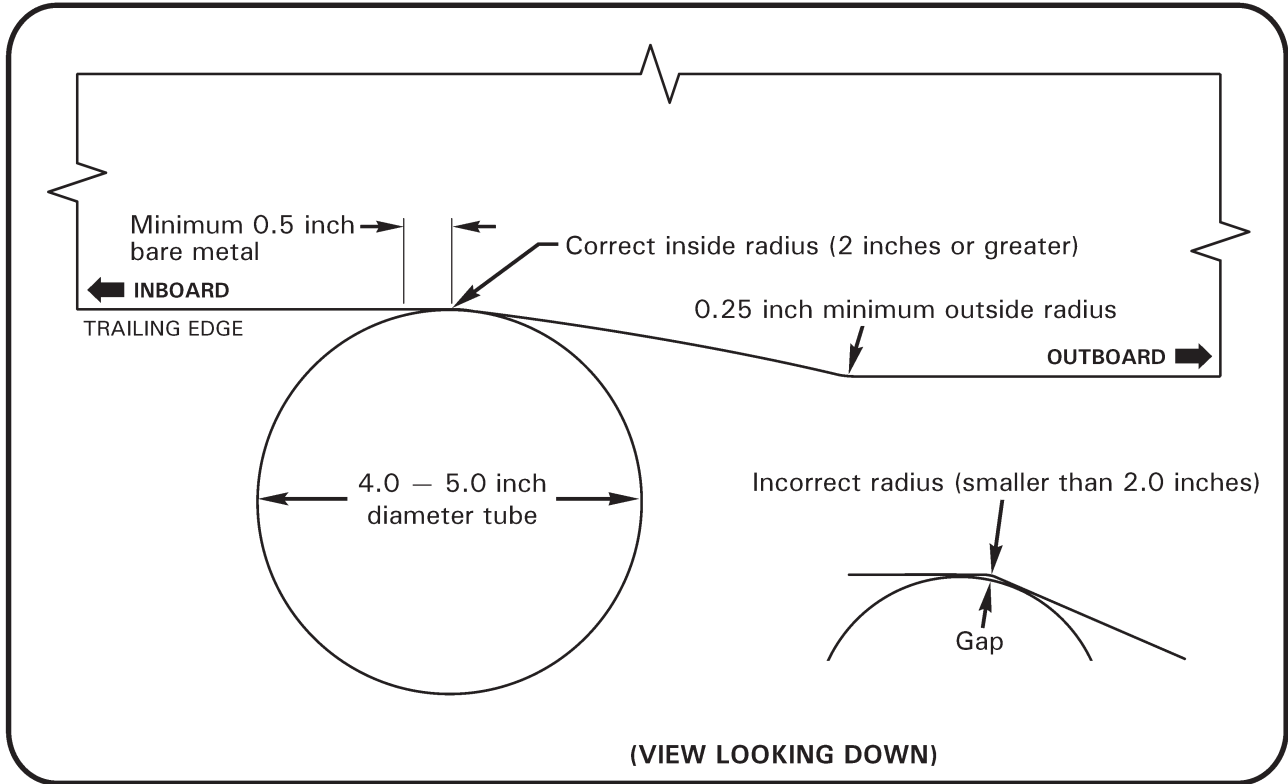

FIGURE 3
6. Refer to Figure 3. Wrap R7769-1 tube with 220-grit wet-or-dry aluminum-oxide or silicon-carbide abrasive paper. Holding tube perpendicular to blade trailing edge, sand edge spanwise to create a 2.0 inch minimum inside radius.
7. Finish edge by sanding spanwise using tube wrapped with 320-grit wet-or-dry aluminum-oxide or silicon-carbide abrasive paper. Remove any remaining paint or primer by sanding to expose trailing edge bare metal for minimum 0.5 inch inboard of radius as shown. Also sand a 0.25 inch minimum outside radius at corner shown in Figure 3.
8. Using R7769-1 tube as a gage, verify radius is a minimum of 2.0 inches as shown in Figure 3 (a radius that is too small will leave a gap between tube and trailing edge). Verify minimum chord after rework per MM § 62-45 (11.46 inches minimum inboard of rework).